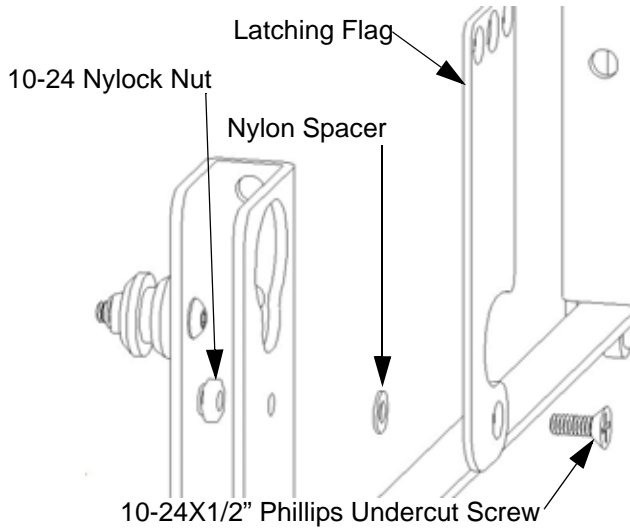

Figure 7. Install Latching Flag
- 4. Install the latching flag (60) using the 10-24X1/2" Phillips undercut screw (70), Nylon spacer (80) and 10-24 Nylock nut (90) (see Figure 7).